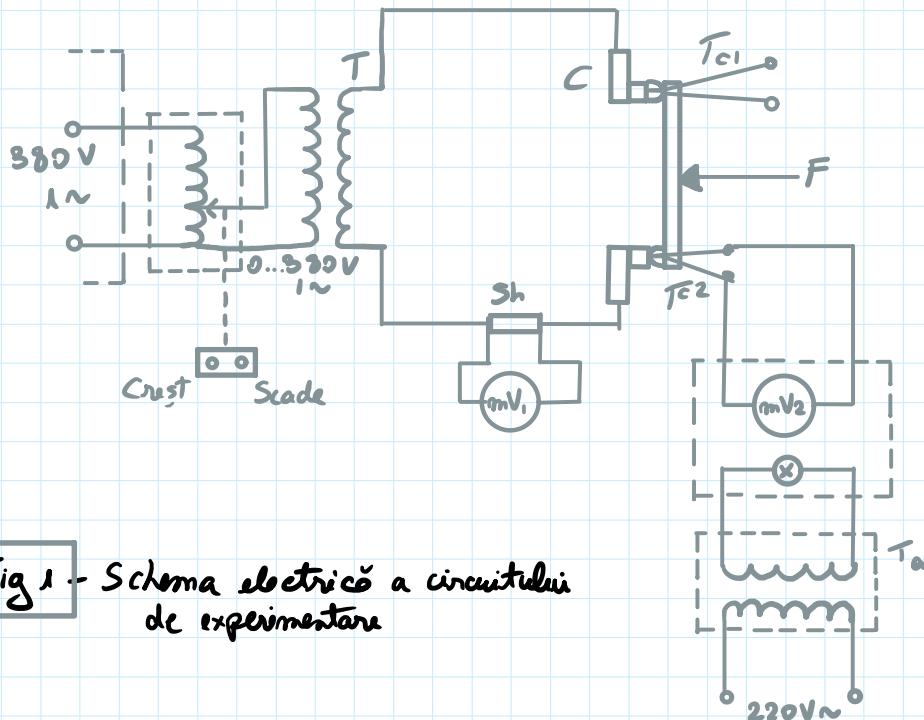

Fig 1 - Schema electrică a circuitului de experimentare
- **Setup :** - Assemble the circuit as shown in Fig 1